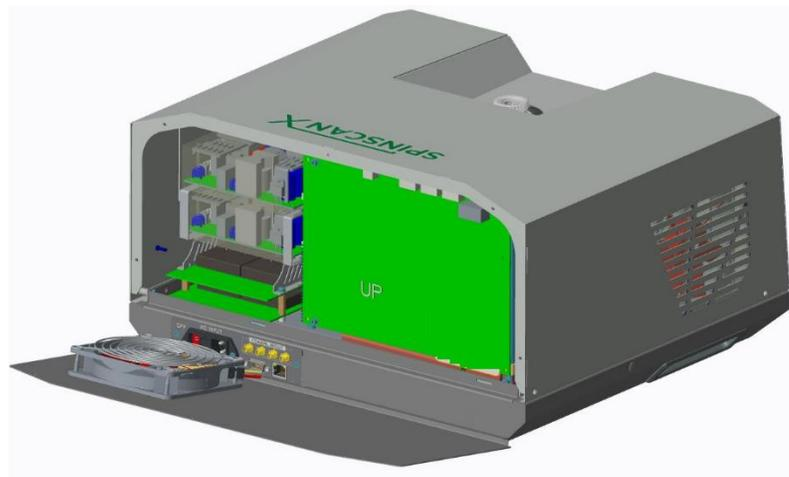

Figure 3.5
- remove the screws on the side panels and then carefully lift the cover up (Fig. 3.5).